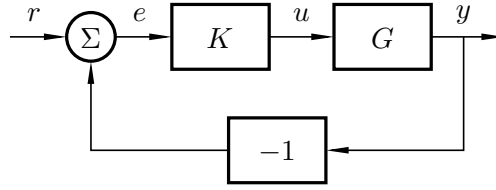

Figure 6.4 Block diagram of process G in negative feedback with controller K
The closed loop system using simple feedback ($K = 1$ in Fig. 6.4) is unstable if and only if the Nyquist curve encircles the point -1 .
6.6 Consider the block diagram in Figure 6.4. Consider the process